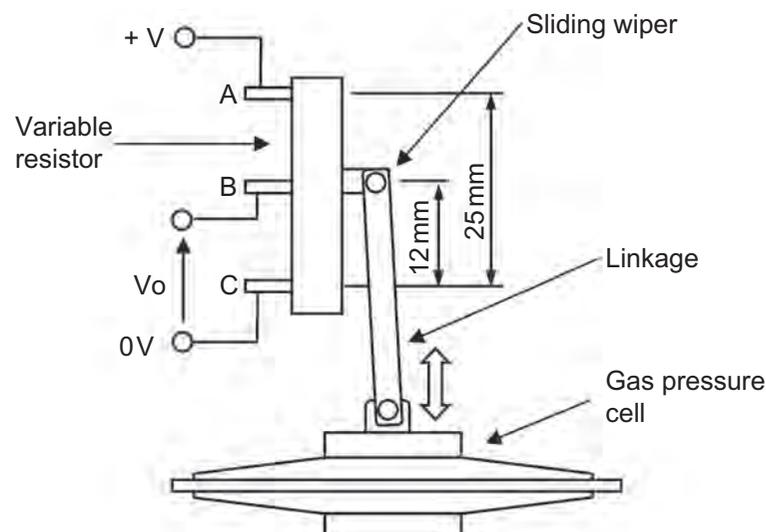

Fig. 1(b)
- (i) Sketch a graph with labelled axes showing how the voltage V_o in **Fig. 1(b)** varies as the wiper is moved from terminal C towards terminal A. [2]